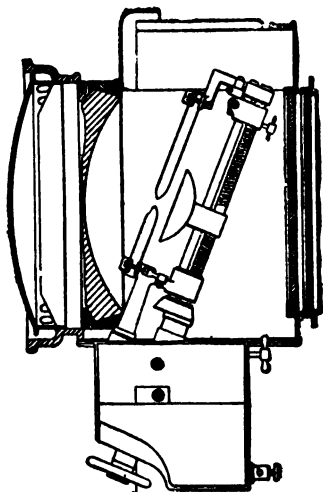

Fig. 14.—Suez Canal Projector, Section.
*Projector for Search and Navigating Light.*—The projecting apparatus is intended to concentrate the light in a given path. It is made with and without lenses intended to give a diverging light. Reference to Fig. 14 will assist in elucidating its construction. The lantern is generally made of metal, jointed as